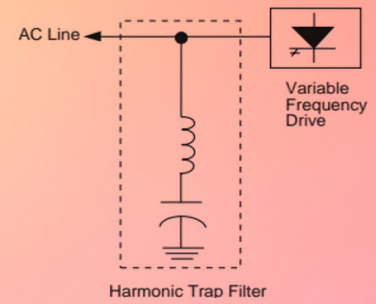

Figure 5: Typical Harmonic trap filter configuration
- **Harmonic trap filters** – Used in applications with a high non-linear ratio to system to eliminate harmonic currents. Filters are tuned to a specific harmonic such as the 5th, 7th, 11th etc. In addition, harmonic trap filters provide true distortion power factor correction. Filters can be designed for several non-linear loads or for an individual load, as shown in Fig 5 [3]